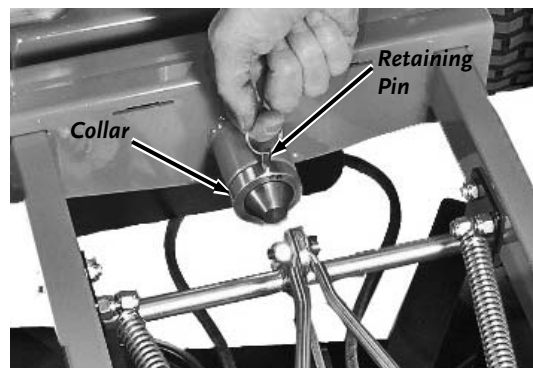

Figure 8
3. Attach the Collar and insert the Retaining Pin (Figure 8).